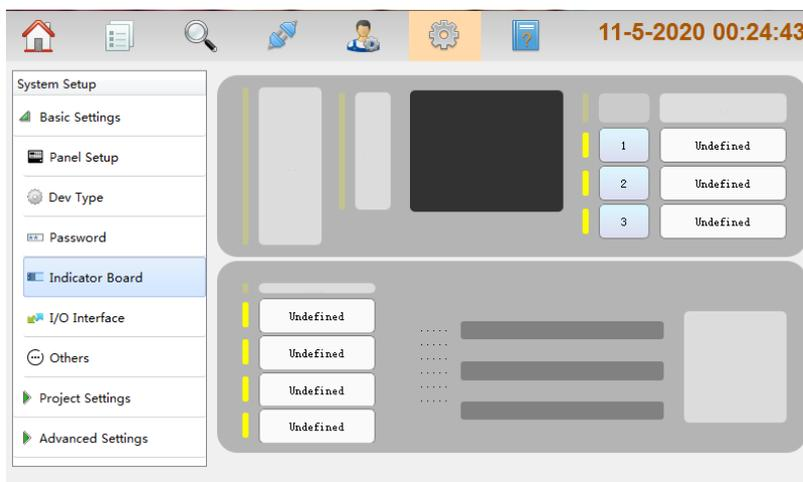

Fig. 4.4
- Indicator Board: Clicking **Indicator Board**, Indicator Info can be displayed on the right of the screen, including Defined Led Qty. and Defined Led Key Qty. Refer to Fig. 4.4 for details.